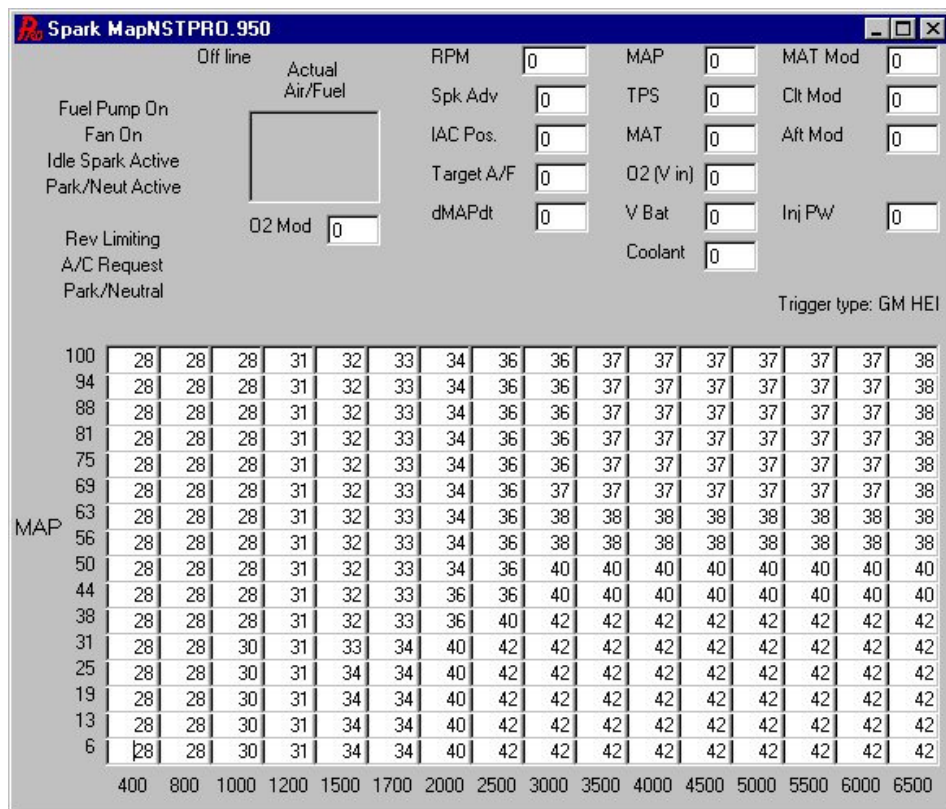
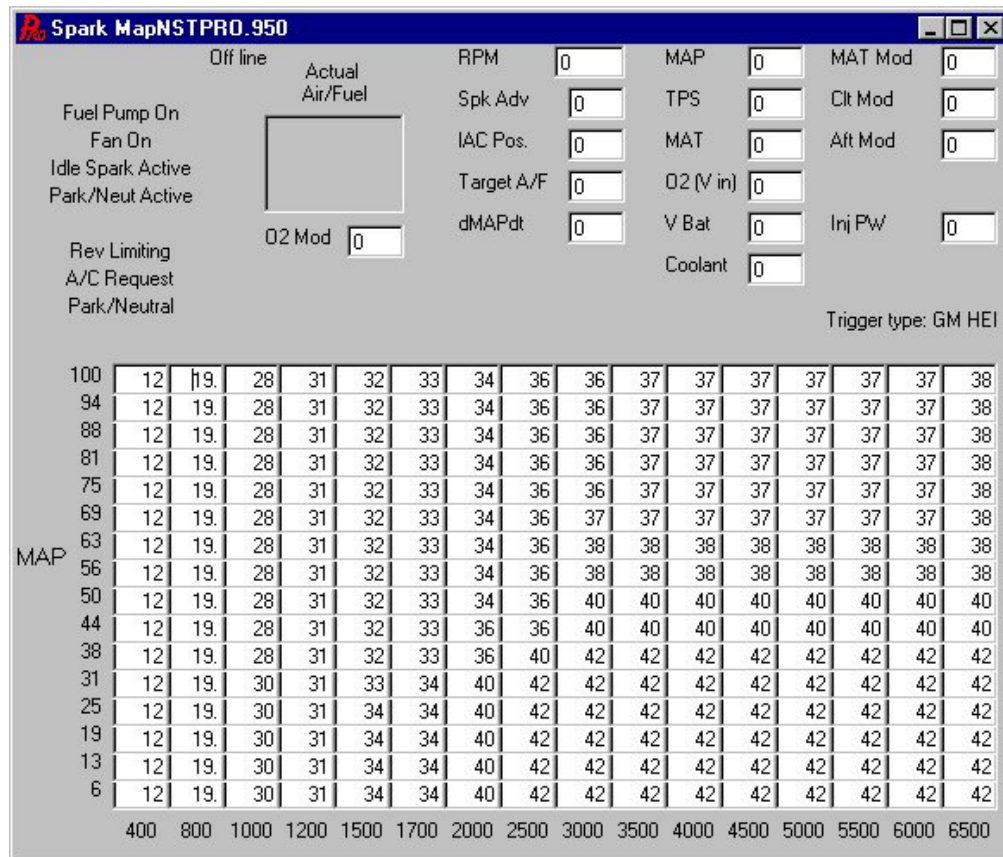

Figure 29 Spark Map
Figure 30 Poor Spark Map at Idle
- B. The next thing that greatly contributes to a smooth idle is having a fuel and spark map that is smooth in the area that the engine idles. Note the map (**Figure 29**) before, the timing at idle is flat. The spark map (**Figure 30**) below shows poor mapping at idle. If the engine was to idle at 850 rpm at 44 kPa, the timing could be jumping between 11, 19, and 27 between the speeds of 400 to 1000 rpm. This causes the timing to fluctuate and will make the engine surge. The area at which an engine idles should have a relatively flat timing area. It is fine to add advance as the rpm increases, but when an engine is idling, the timing should not vary due to the map.